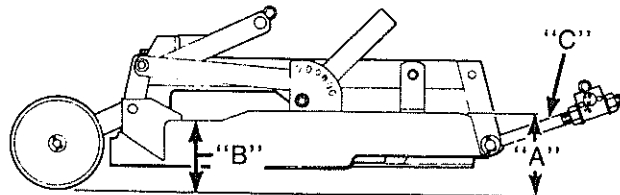

FIGURE 8-1
4. Check front to rear level by measuring distance from front top edge of deck (A), Figure 8-1 and the back top edge (B) to the floor. The distance should be at least 7/8" (2.2 cm) higher in the front. If not, adjust rod length of front links (C).